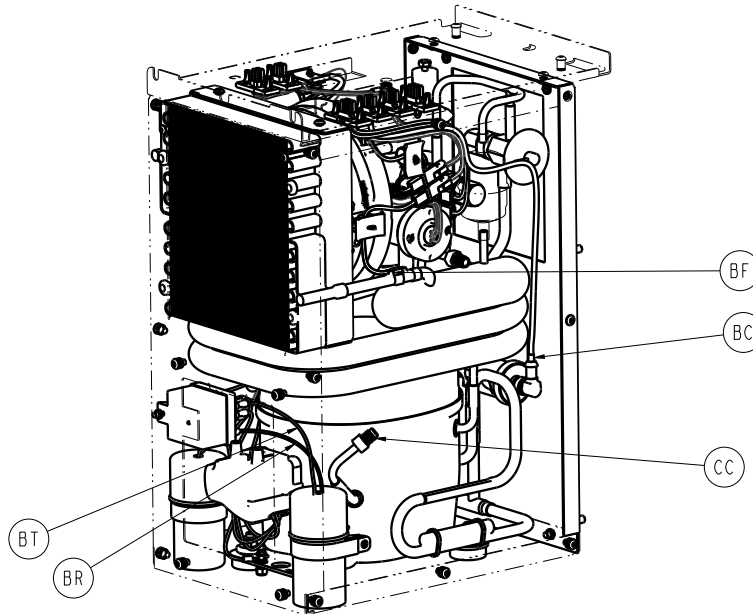

Figure 24 – Refrigeration temperature probe
4. Using a utility knife, remove the insulation and tape around the refrigeration temperature probe (BF) (Figure 24).